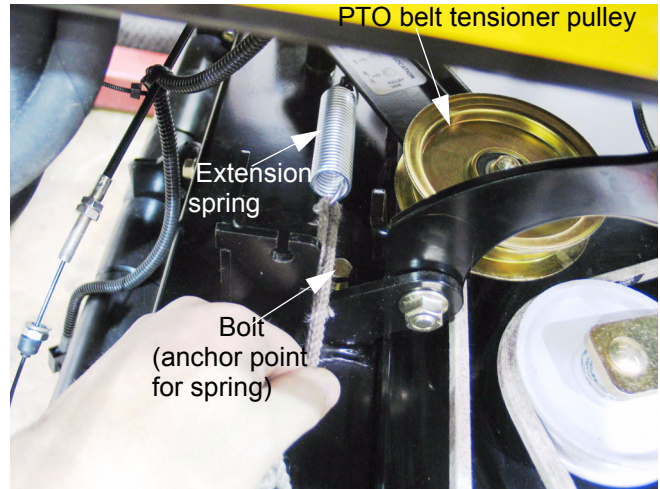

Figure 8.10
- 8.10. Release the extension spring that maintains tension on the PTO belt tensioner arm and pulley. Use a length of starter rope or a spring removal tool. See Figure 8.10.